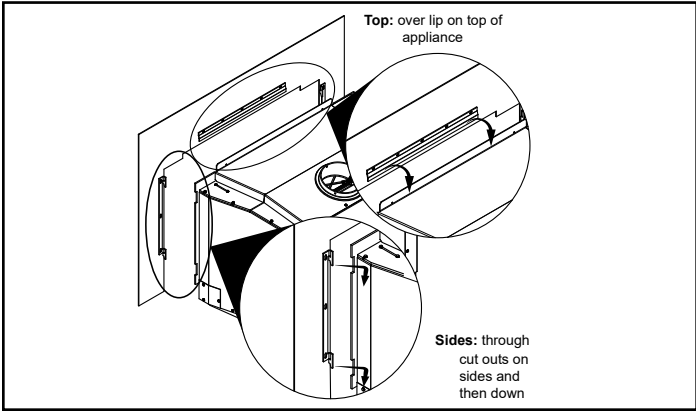

Figure 5.9
4. Lift surround on to front of appliance (**Figure 5.9**).